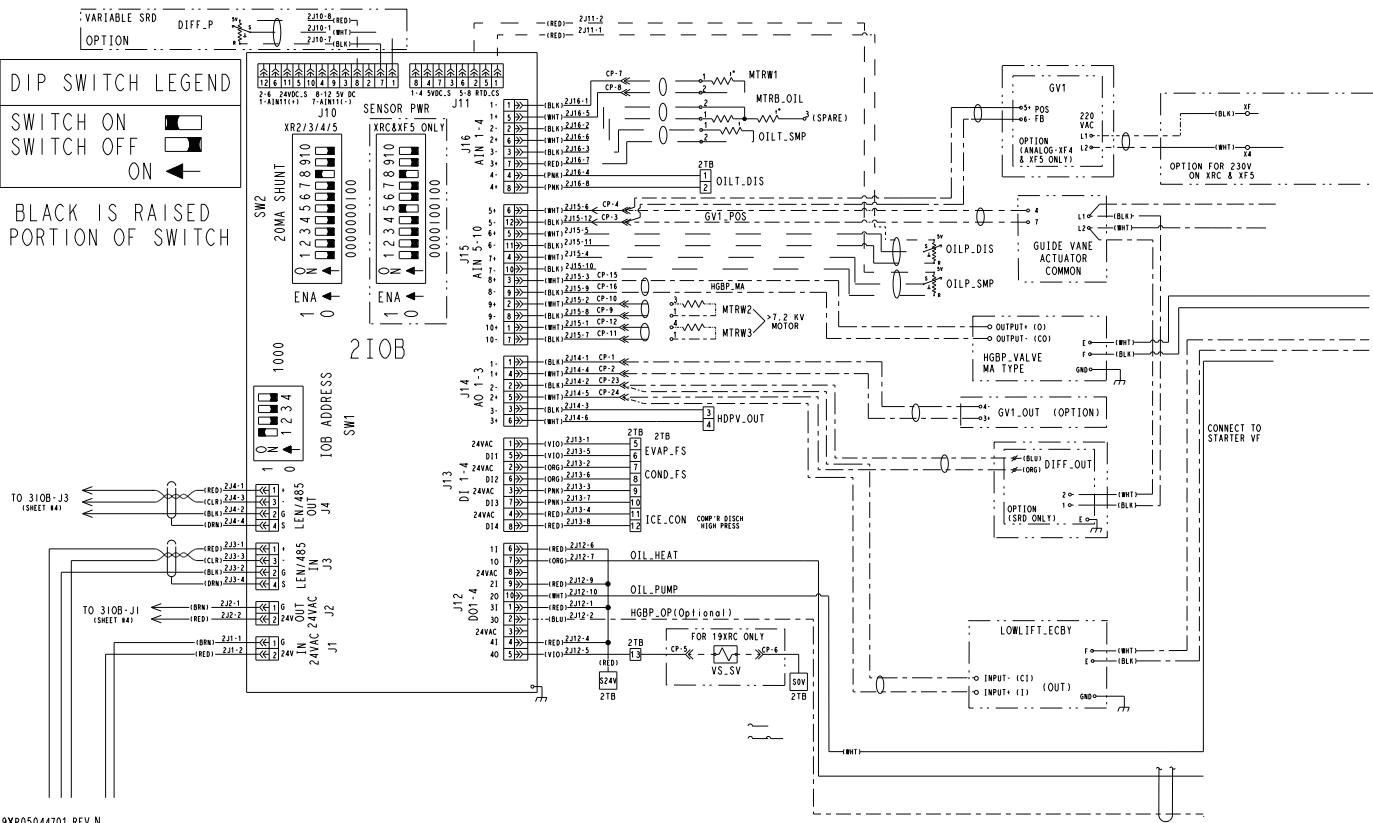

Fig. 5 – 19XR3-E IOB2
- See Fig. 5 for IOB2 wiring diagram.
- For pressure readings, only Vout (output) terminal is indicated. See Fig. 5 for Vin (+) and ground (−).